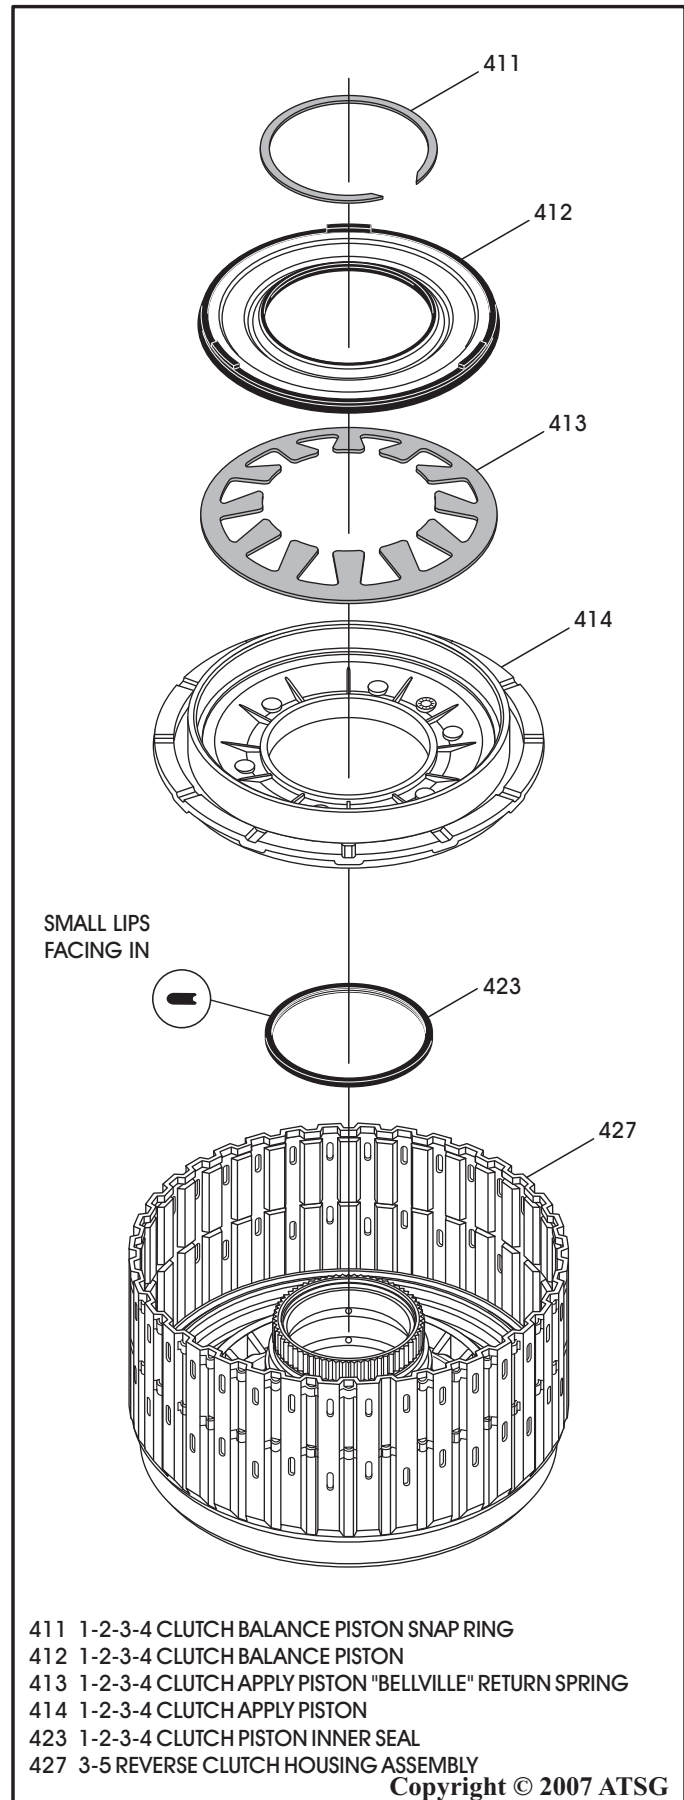

Figure 97
18. **Now**, install the 1-2-3-4 clutch piston inner seal with the lips facing the groove, as shown in Figure 97.
19. Install the 1-2-3-4 clutch apply piston into the housing, as shown in Figure 97.
20. Install the 1-2-3-4 clutch "bellville" return spring in direction shown in Figure 97.
21. Lubricate the seal area and install the 1-2-3-4 clutch balance piston, as shown in Figure 97.
22. Compress the assembly and install the snap ring, as shown in Figure 97.